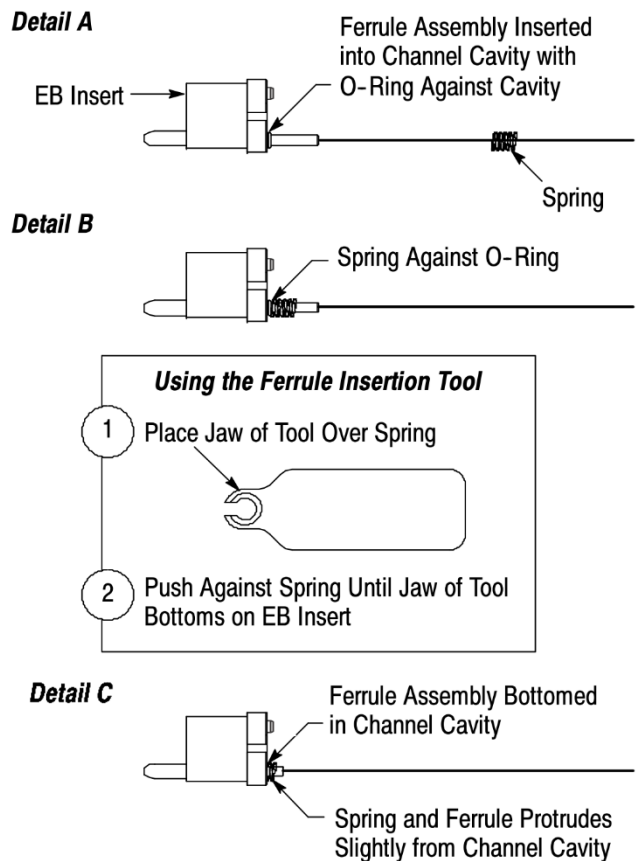

Figure 11
See Figure 11, Detail A. To avoid damage to the fiber, DO NOT push on the fiber to install the ferrule assembly.
3. Slide the spring over the fiber until it is against the O-ring of the ferrule assembly. See Figure 11, Detail B.
4. Using the ferrule insertion tool, **push on the spring** until the ferrule assembly bottoms in the channel cavity (the O-ring will be inside of the cavity, and the spring will protrude slightly from the cavity). See Figure 11, Detail C.
- Modified Figures 11, 12, and 14 to illustrate revised EB insert and ferrule plate designs